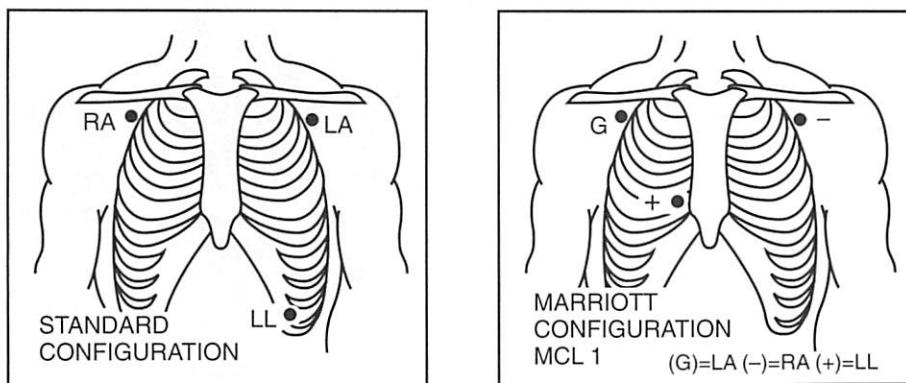

Figure 2-2. ECG leads placement
- 6 Apply the electrodes to the patient in either the standard lead configuration or the Marriott Configuration for Modified Chest Lead (MCL1) monitoring, as shown in Figure 2-2. If using MCL1, select LEAD II on the Propaq, and use all three electrodes.